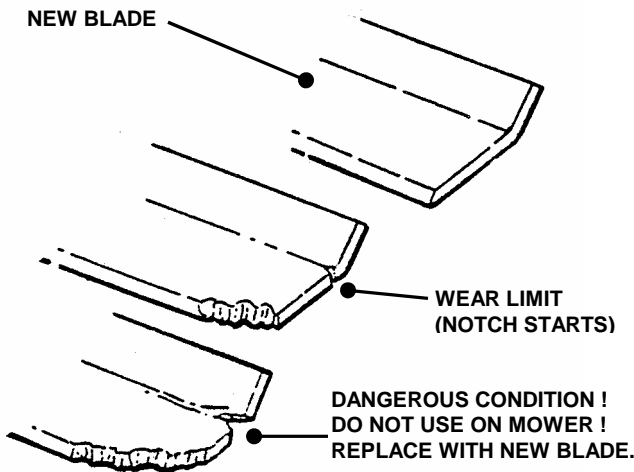

FIGURE 4.1
1. Inspect blade frequently for signs of excessive wear or damage. See Figure 4.1.
2. Replace the blade if it is badly chipped, bent, noticeably out of balance or has cracks or notch in either tip. See Figure 4.1. Replace with new blade Part No. 2-6407.
6. Reinstall blade. Refer to Figure 4.1. Check torque of blade retaining cap screw. Recommended torque should be 30 to 40 ft. lbs.